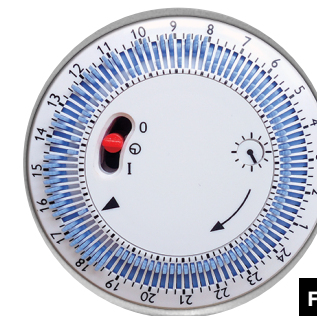

Fig 6
1. Regulate the timer according to the clock by turning it clockwise (DO NOT TURN IT ANTI-CLOCKWISE). (See Fig. 6 opposite).